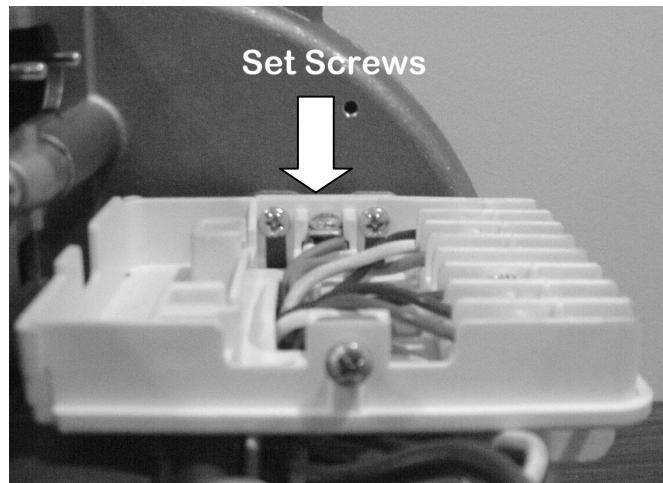

Figure 2
7. Loosen the two right-side set screws holding the control base to the housing without removing the screws, **Figure 2**.